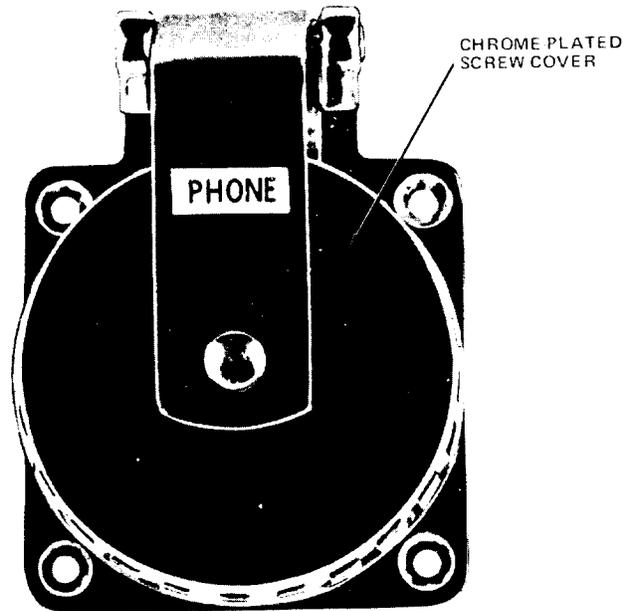

Fig. 17—B Waterproof Male Jack (Front View)
2.15 B Waterproof Male Jack: The B waterproof male jack (Fig. 17 and 18) is mounted on a boat and receives the female plug of the B weatherproof cord to provide telephone service to boats. It is chrome plated with hinged, threaded cover to make the jack waterproof when not in use. Three screw terminals on the rear of the jack stamped R, T, and GR provide connections.
- Fig. 17 and 18—B Waterproof Jack